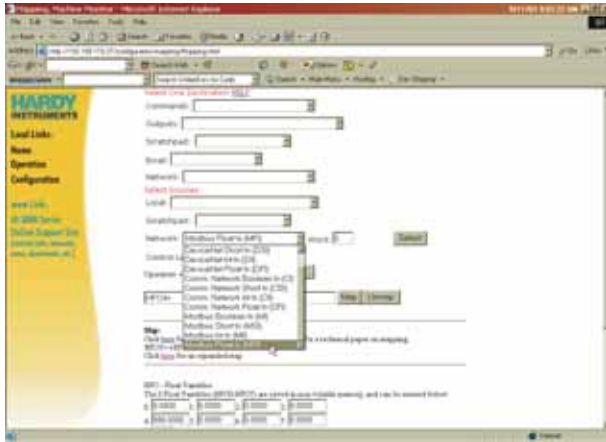

FIG. 171: MAPPING DISPLAY/SELECTING SOURCE - MFIO (MODBUS FLOAT IN - WORD 0)
- Click on Modbus Float In (MFIO). (See Fig. 171)